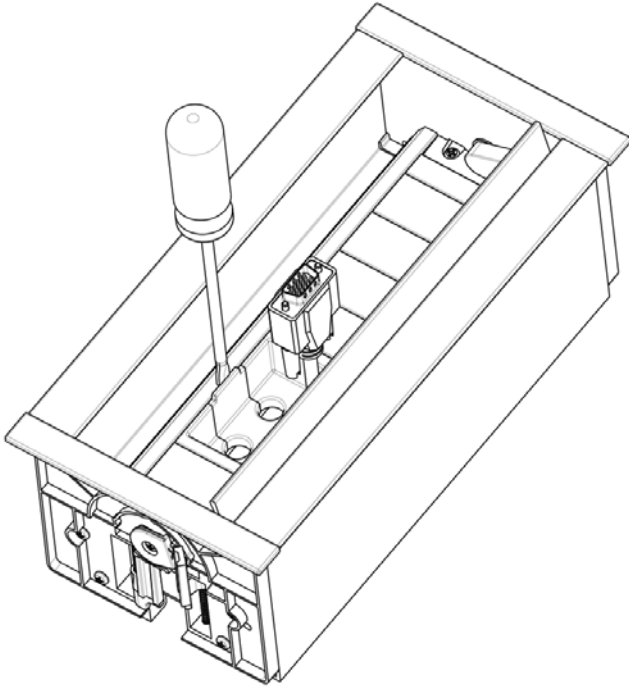

FIG. 3 REMOVING THE HPX-CPTS100-W MODULE
3. Place a soft cloth or other protection between the screwdriver and the metal frame to avoid damaging the metal finish (FIG. 3):